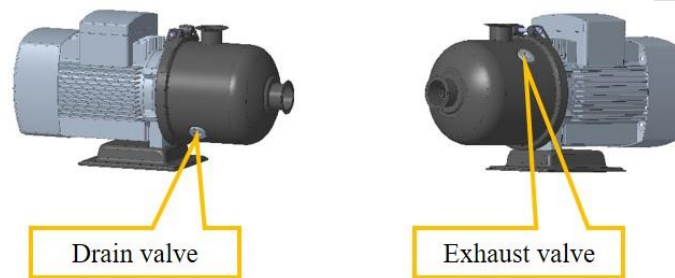

Figure 7.15 Liquid filling pump drain and exhaust port.
- c. Open the drain valve of the liquid filling pump (Allen wrench), switch to manual mode on the touch screen, and open the solenoid valve V202. After water is discharged, close the manual exhaust valve of the liquid filling pump, as shown in Figure 7.15.